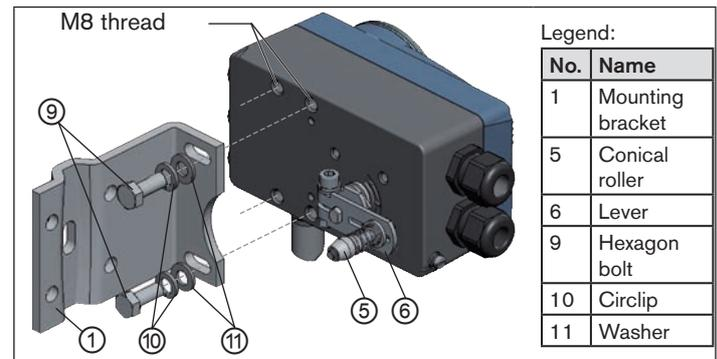

Fig. 8: Attaching mounting bracket
→ Attach mounting bracket ① to the back of the Type 8792/8793 with hexagon bolts ⑨, circlip ⑩ and washers ⑪ (see "Fig. 8").
The conical roller ⑤ on the lever ⑥ of the position sensor must be able to move freely in the hoop (refer "Fig. 8") along the entire stroke range of the actuator.